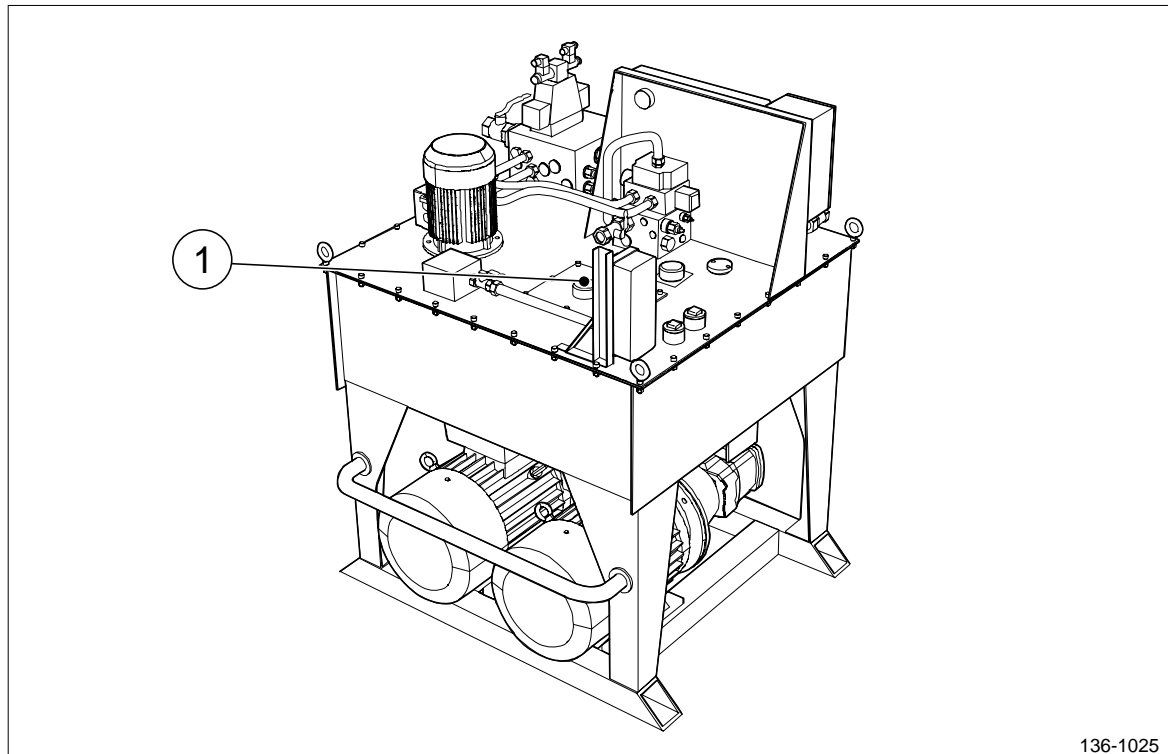

Figure 1 Front view of the hydraulic power pack.
1. Locate the air breather filter F5 on the hydraulic power pack (see figure 1).